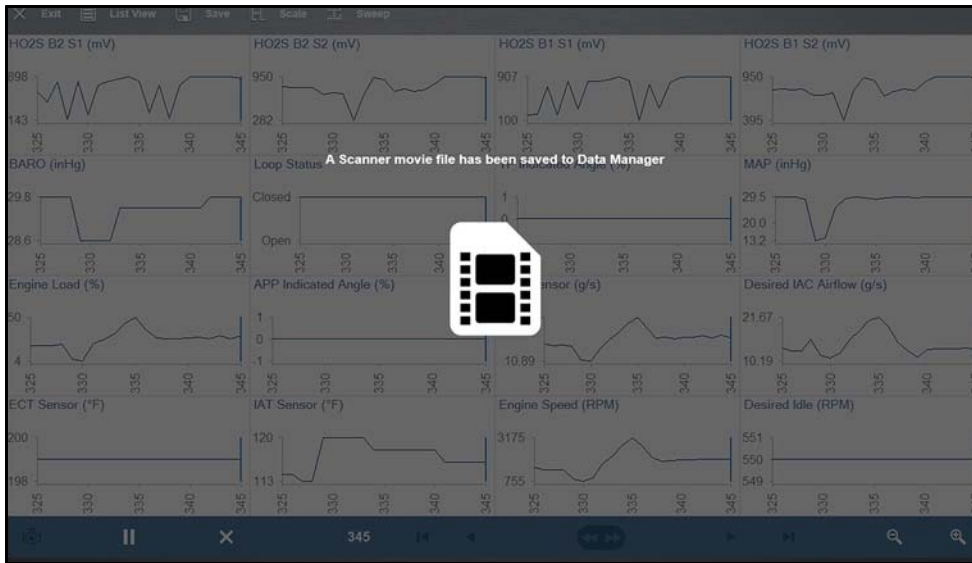

Figure 5-62 Typical - Activated trigger saved data file screen
- A message displays indicating a data file was saved (*Figure 5-62*).